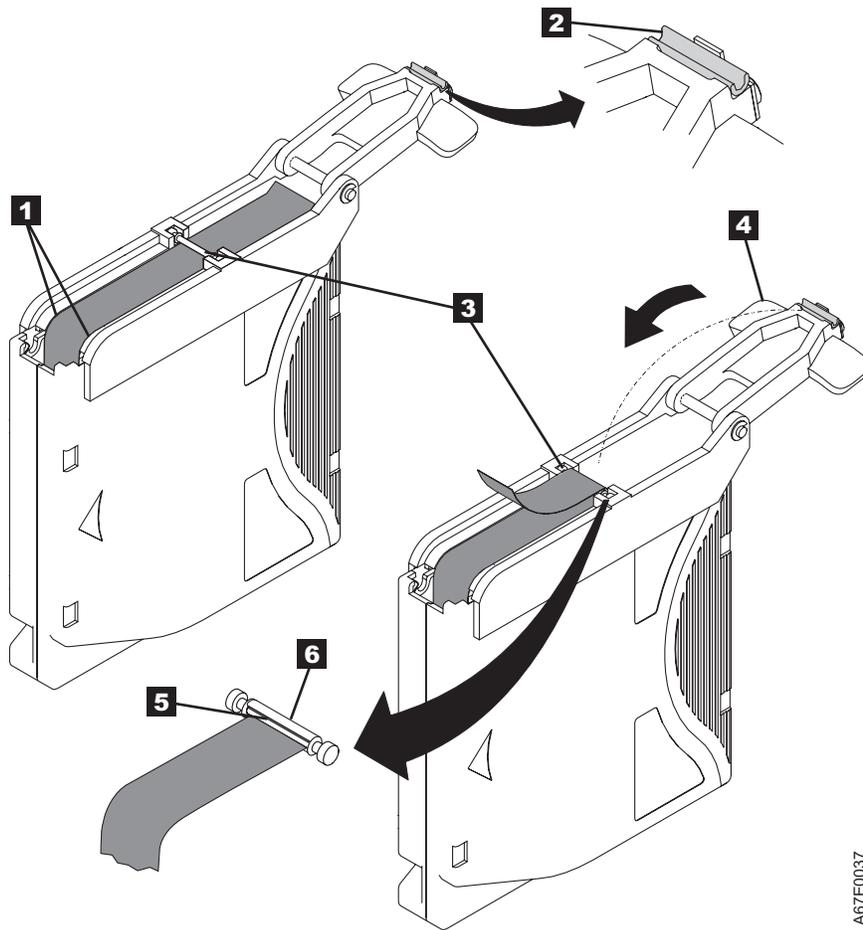

Figure 48. Attaching the leader pin to the tape
7. Position the tape in the alignment groove of the leader pin attach tool (see **1** in Figure 48 on page 162).
11. Fold the tape over the leader pin and hold it with your fingers (see Figure 48 on page 162).